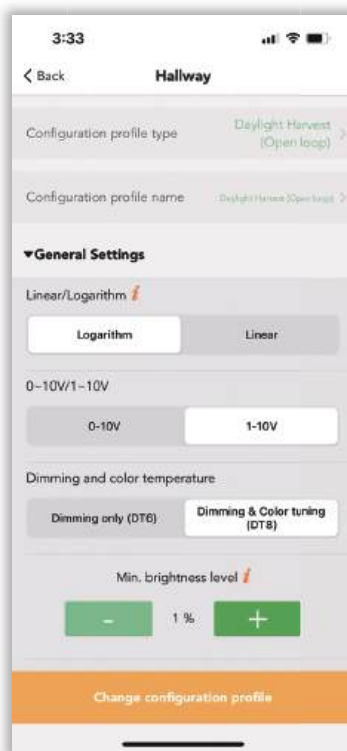
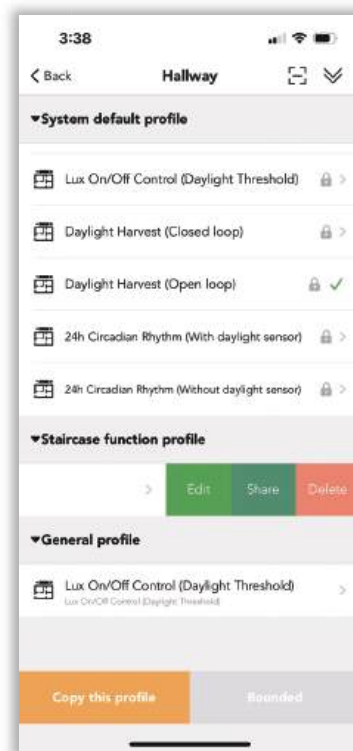

Figure 17.2 Modify profile
Figure 17.3 Change profile
1. Modify a configuration profile which enable to create a new profile or select the profile from system default setting. Before user start to configure the profile, user need to click “change configuration profile” first. Like zone Hallway (see figure 17.2). Then there is  which enable user to get a shared configuration profile via scan the QR code or key in the encrypted randomized key. There are 7 system default setting in Koolmesh app which enable user to choose according to their real application, but those profile with  means cannot edit or share and delete. For those profiles created by users can be edited/ shared and deleted (see figure 17.3)